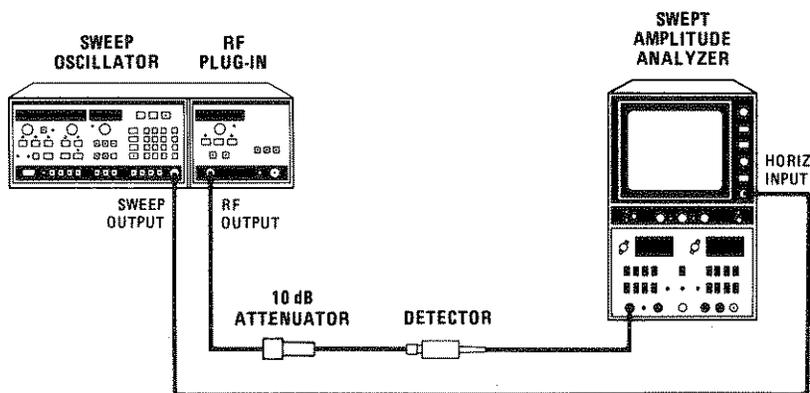

Figure 5-20. Internal Leveling Adjustment Test Setup
1. Reinstall A5 FM Driver assembly. Connect equipment as shown in Figure 5-20, with the 8755C monitoring the RF output. Select 8350A MOD. Sweep the full range of the plug-in at any leveled power.